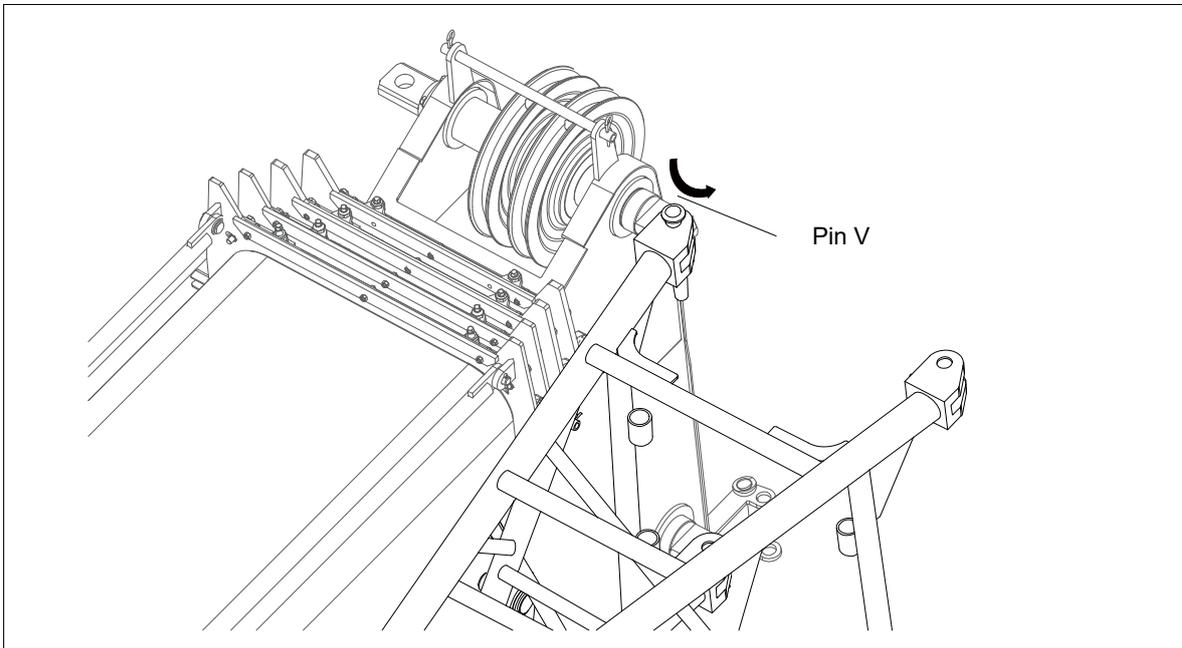

Figure 5-9 Jib rotation
- h) Move the jib (pivots at pin IV) to the front of the boom. See Figure 5-9.